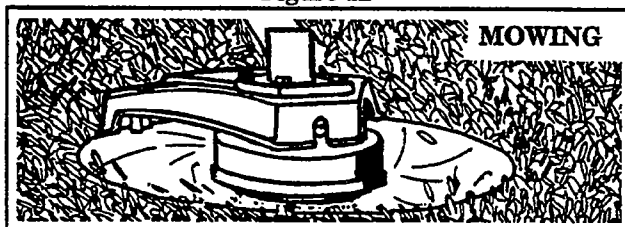

Figure 13
3. **MOWING**- Figure 13 . Your trimmer is ideal for mowing in places conventional lawn mowers cannot reach. In the mowing position, keep the line parallel to the ground. Avoid pressing the head into the ground as this can scalp the ground and damage the tool.